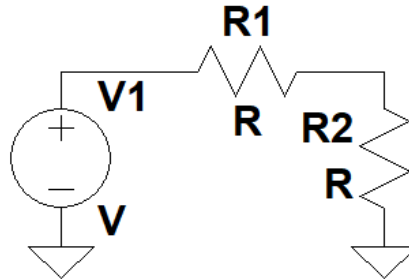

Figure 12 Voltage Divider Circuit
We want to analysis the voltage divider circuit shown in Figure 12.
1. Drawing the Circuit in Schematic Window as shown in Figure 12.
We want to make Dc sweep analysis for the circuit shown in Figure 12.
- Drawing the Circuit in Schematic Window as shown in Figure 12.